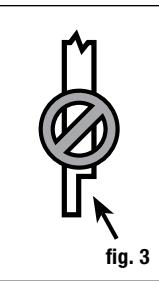

fig. 3
Step 2 Install railing posts prior to installing deck boards. Cedar or pressure-treated pine 4x4 railing posts or a post mount provides the structural strength for the railing. The length of each post is determined by the total of the joist width (typically 7-1/4") + decking thickness (1") + railing height (36") + spacing for post cap (1-1/4") = 45-1/2". **Important: Do not notch the 4x4 railing posts. Notching will reduce the strength of the post and could result in railing collapse or failure (fig. 3).** Use structural post mounts for installation on concrete.